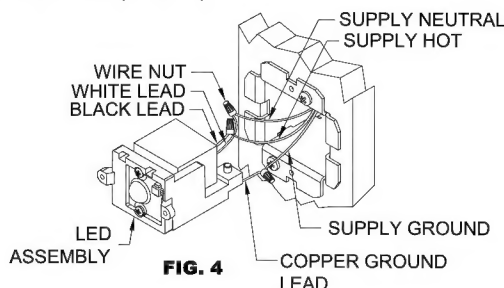

FIG. 4
7. While supporting LED ASSEMBLY, Make electrical connections: Black lead to hot (Black) supply lead; White lead to neutral (White) supply lead; copper ground lead to supply ground lead. Make connections with WIRE NUTS (FIG. 4)